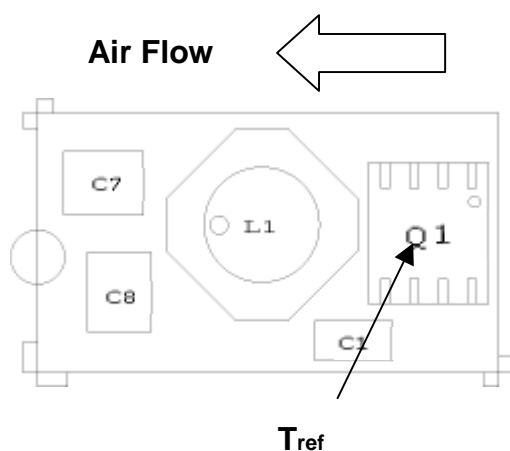
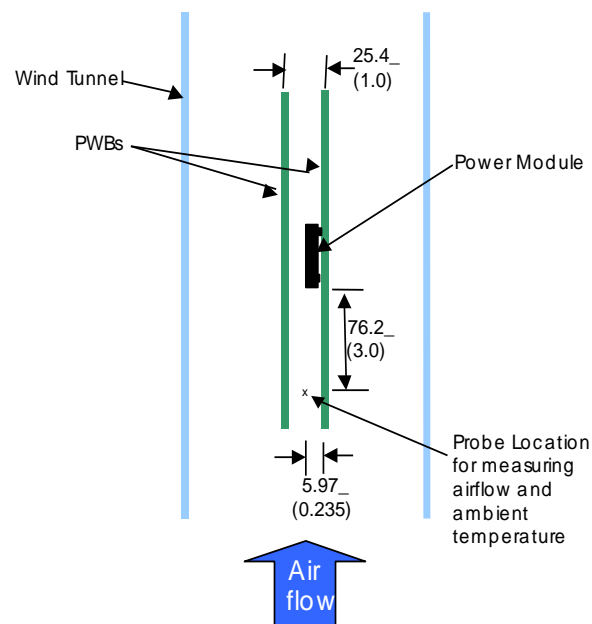

Figure 31.  $T_{ref}$  Temperature measurement location.
Figure 32. Thermal Test Set-up.
To provide over temperature protection in a fault condition, the unit relies upon the thermal protection feature of the controller IC. The unit will shutdown if the thermal reference point  $T_{ref2}$ , (see Figure 31) exceeds  $140^{\circ}C$  (typical), but the thermal shutdown is not intended as a guarantee that the unit will survive temperatures beyond its rating. The module will automatically restarts after it cools down.
Considerations include ambient temperature, airflow, module power dissipation, and the need for increased reliability. A reduction in the operating temperature of the module will result in an increase in reliability. The thermal data presented here is based on physical measurements taken in a wind tunnel. The test set-up is shown in Figure 32. Note that the airflow is parallel to the long axis of the module as shown in figure 31. The derating data applies to airflow in either direction of the module's long axis.
The thermal reference point,  $T_{ref}$  used in the specifications is shown in Figure 32. For reliable operation this temperature should not exceed 115°C.